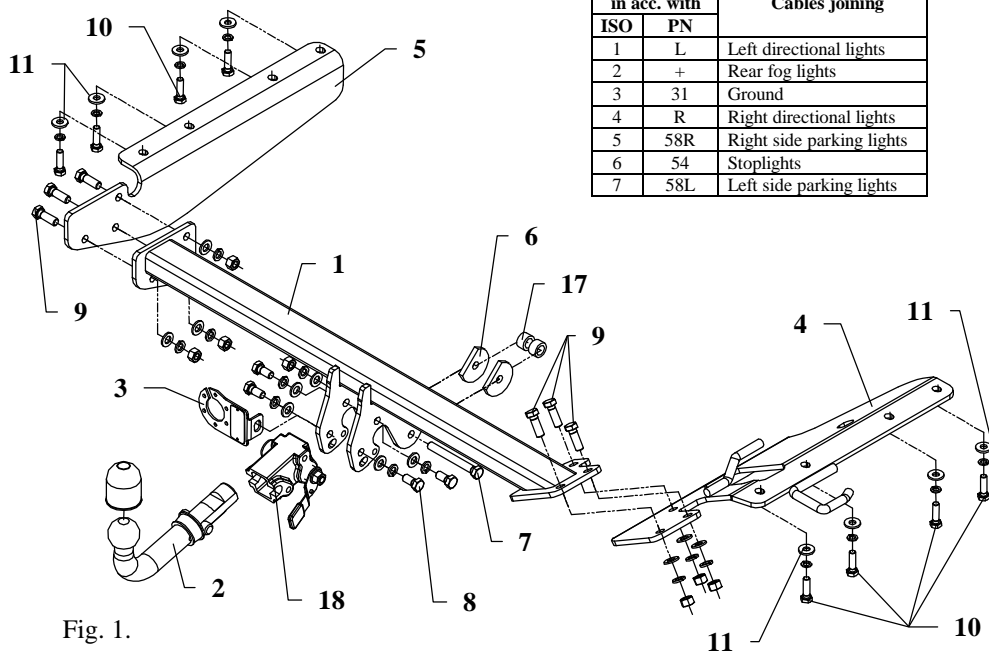

Fig. 1.
4. Right bracket (pos. 4) fix loosely to the right chassis member by bolts M10x1,25x35mm (pos. 11) and flat washers (pos. 11).
5. Left bracket (pos. 5) fix loosely to the left chassis member by bolts M10x1,25x35mm (pos. 11) and flat washers (pos. 11).
6. Between mounted brackets (pos. 4 and 5) put main bar of the towbar (pos. 1) and fix it by bolts M12x35mm (pos. 9) and by bolt M12x70mm (pos. 8) to the original towing eye. Use two cut washers (pos. 6) and sleeves (pos.17), see figure 1.